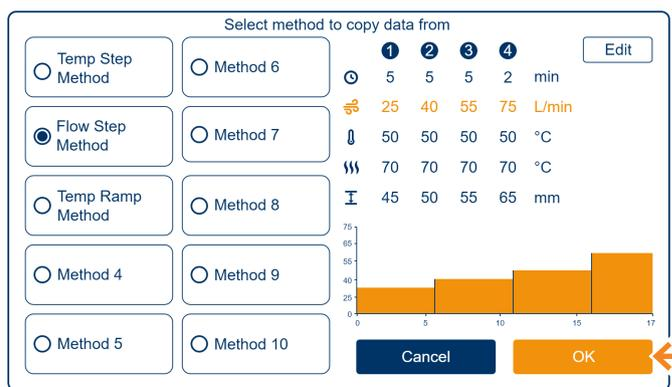

Figure 31. The Select method to copy data from view where the method to be copied is selected.
2. In the Copy Method view, select method to copy from, see Figure 31.